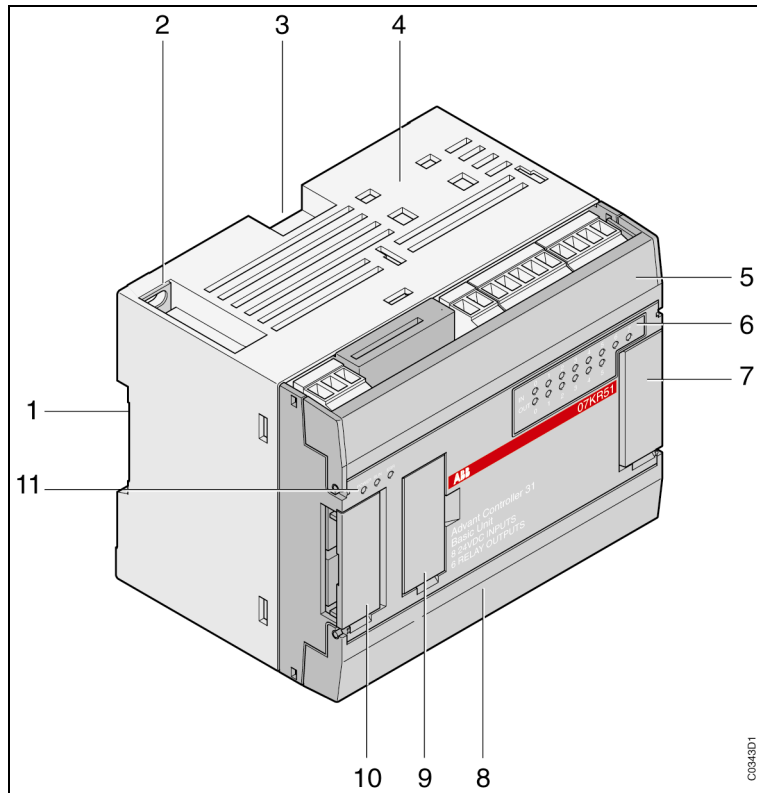

Figure 3-1 : Front of the central unit
3.1. The front of the central unit (see Figure 3-1)